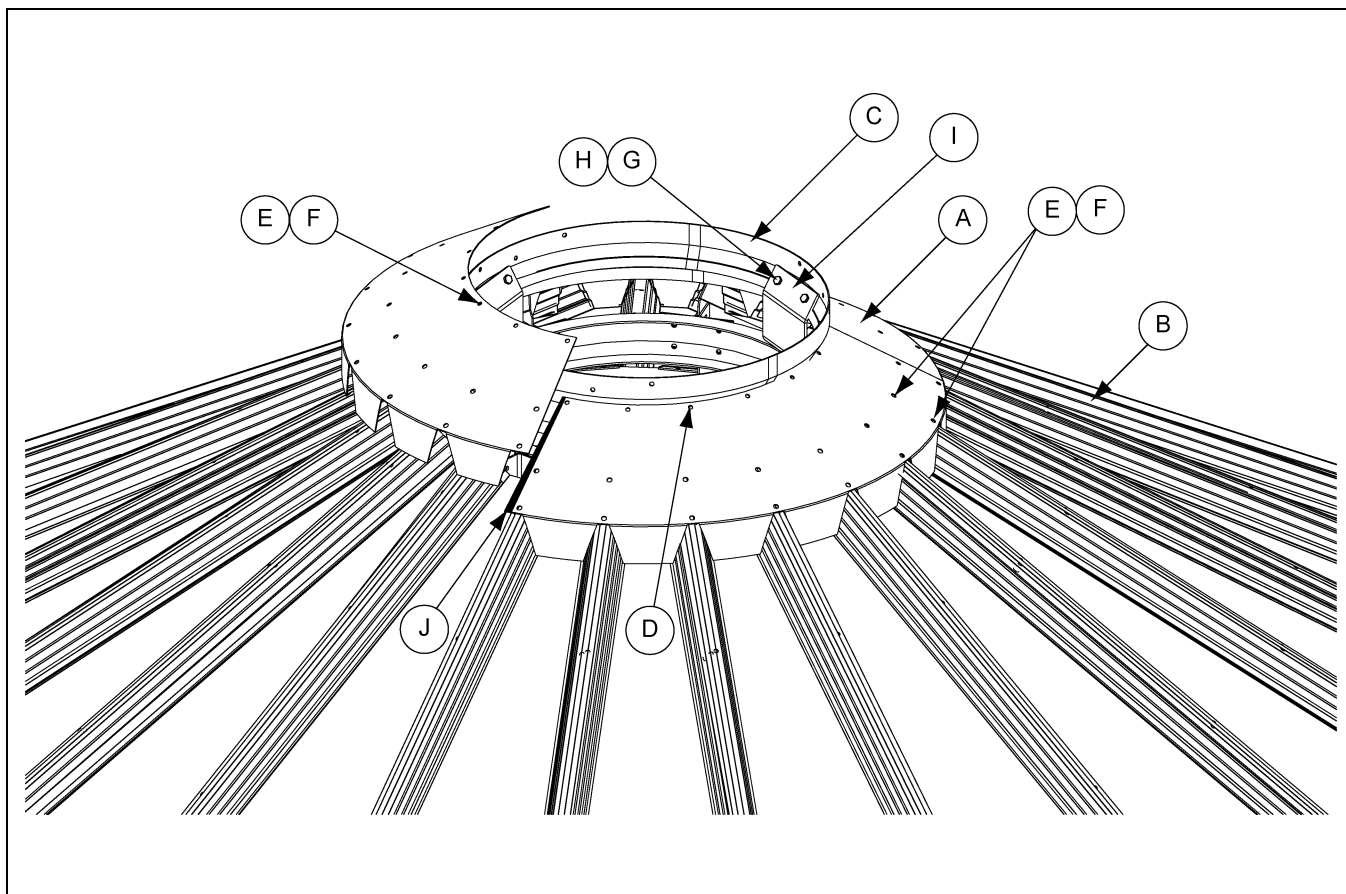

Figure 4T Installation of the First Roof Flashing Section
1. Install the first roof flashing section (A) onto the roof panel (B) and align the holes in the roof flashing (A) with the holes in the roof panel as shown in Figure 4T on Page 33.
2. Adjust the center collar (C) to align with the holes in the roof flashing.
3. Install flange bolts (E) and flange nuts (F), securing the first roof flashing section (A) to the roof panel ribs.